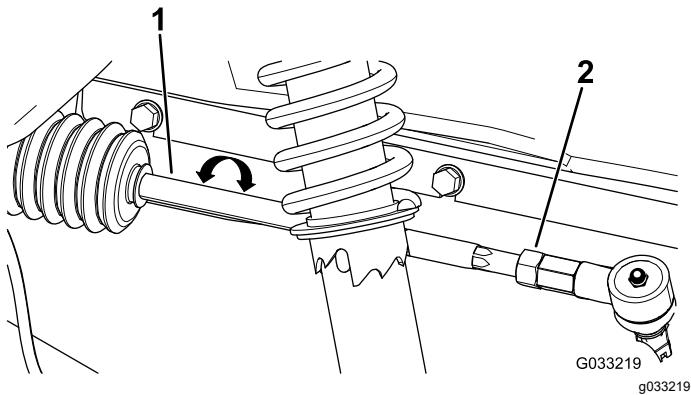

Figure 77
1. Loosen the jam nuts at the outer end of the tie rods (Figure 77).